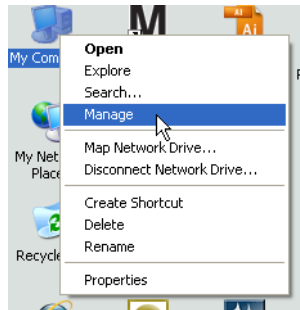

FIG. 34
- a. Right click the My Computer icon on the desktop; then click Manage (FIG. 34).